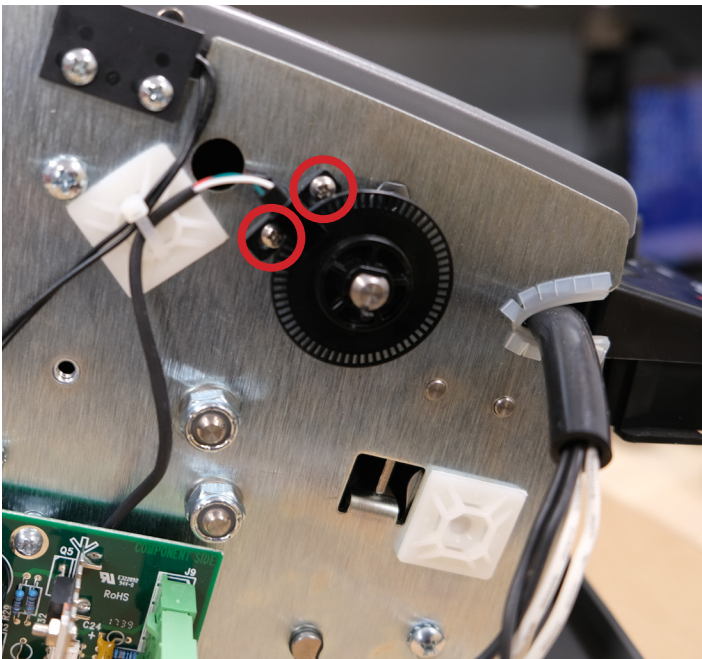

Figure 1
5. Remove 2 Philip screws holding sensor to frame (Figure 1)